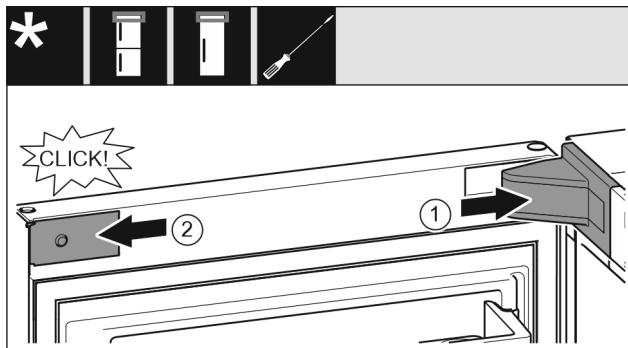

Fig. 23
- ▶ Position the swap bearing block cover Fig. 23 (1) and snap it in. You may need to push it carefully apart.
- ▶ Attach the panel Fig. 23 (2) from the side and snap it on.